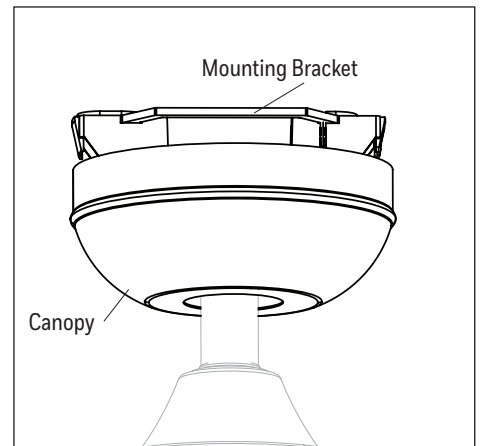

Figure 5.3
3. Lift the canopy, ensure the magnets at the bottom of the mounting bracket secure the canopy in place (Figure 5.3).